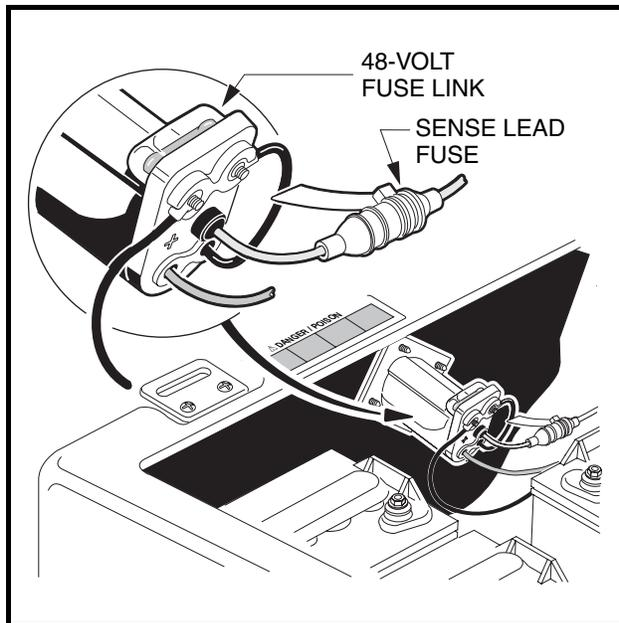

Figure 22 Sense Lead Fuse
- **Vehicles with a charger receptacle: Never modify wiring to bypass the gray sense lead fuse (Figure 22, Page 45).**
As an additional feature to protect the batteries and charging circuit from an overload, The electric vehicle is equipped with a receptacle fuse link (**Figure 22**). If the charger does not turn on when the vehicle is placed on charge, inspect the fuse link.